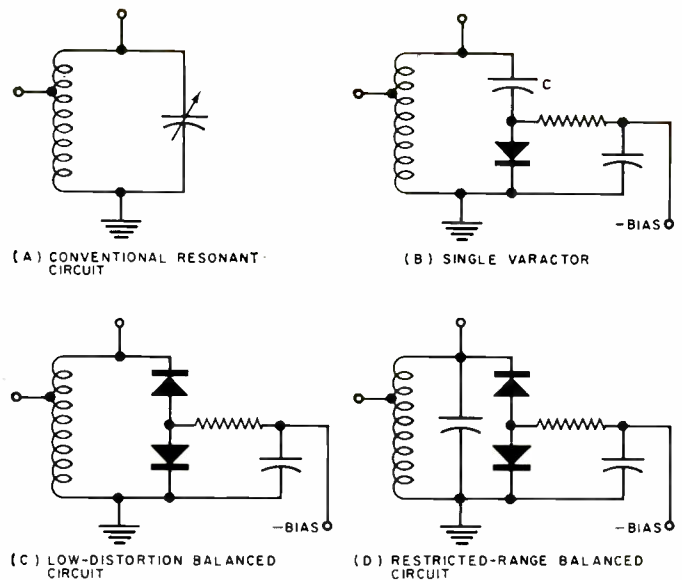

Fig. 3. The use of varactors in various tank circuits.
One obvious application consists of using a varactor as a replacement for a conventional variable capacitor in a resonant circuit, as shown in Fig. 3. To allow proper biasing, a blocking capacitor (C) is added in series with the varactor. Biasing is by way of a high-value resistor in series with the varactor. As the d.c. bias on the varactor is changed, the depletion layer capacitance changes, which in turn changes the resonant frequency. If capacitor C in Fig. 3B is much larger than the junction capacitance, the series equivalent capacitance will essentially be that of the varactor itself.